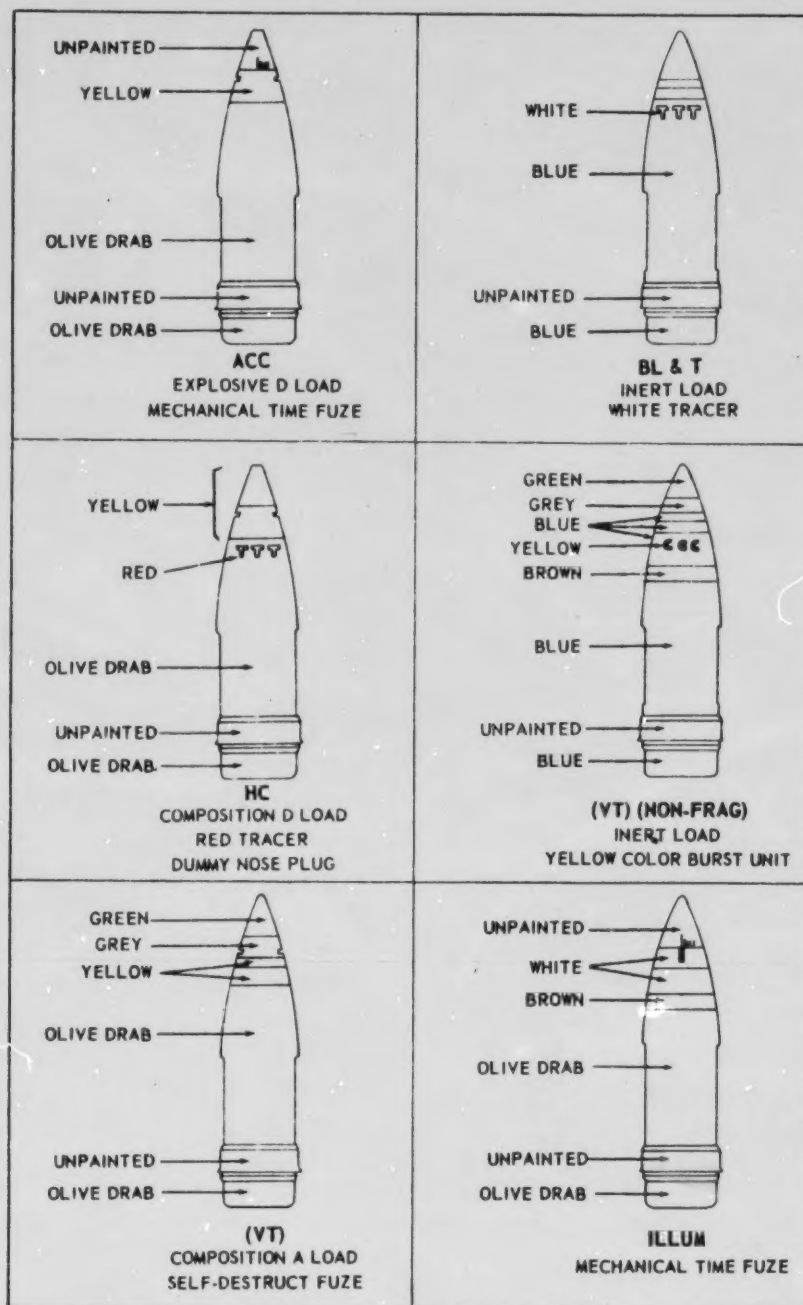

Figure 3-22.— Typical color coding for 3-inch and larger projectiles.
In the color coding system for 3-inch and larger projectiles, the colors are applied as overall body colors, as appropriately colored circumferential bands, or as a combination of colors when the need exists, in accordance with figure 3-21. Nose fuzes and rotating bands are not painted; however, when a dummy nose plug or projectile adapter is assembled with the projectile, it is painted. When circumferential bands are used, the first (or forward) band begins at the base of the nose fuze or the tip of the projectile nose. It is equal in width to half the caliber but does not exceed three inches. When a second band is used, it is placed immediately behind the forward band and is equal to 1/4 the caliber but does not exceed 1-1/2 inches. Figure 3-22 illustrates the location of colors and markings on various type projectiles. Projectiles are further marked to indicate characteristics such as the presence and the color of a tracer, a dye load, a color burst unit, or a chemical filler, according to the following:
5. A projectile assembled with a mechanical time fuze normally is painted with a white stripe 1/4-inch by 2-inches, shown in figure 3-22, which is longitudinally placed on the projectile adjacent to the stationary setting lug or